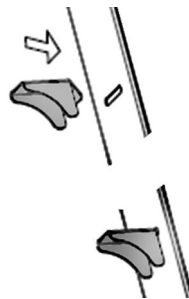

Figure 6.
7. Install 12 hook supports (#14) inside the cabinet to support the shelves. The angled tab slides into the slots along the inside edges of the side panels. Make sure each support is at the same height (Fig. 6).